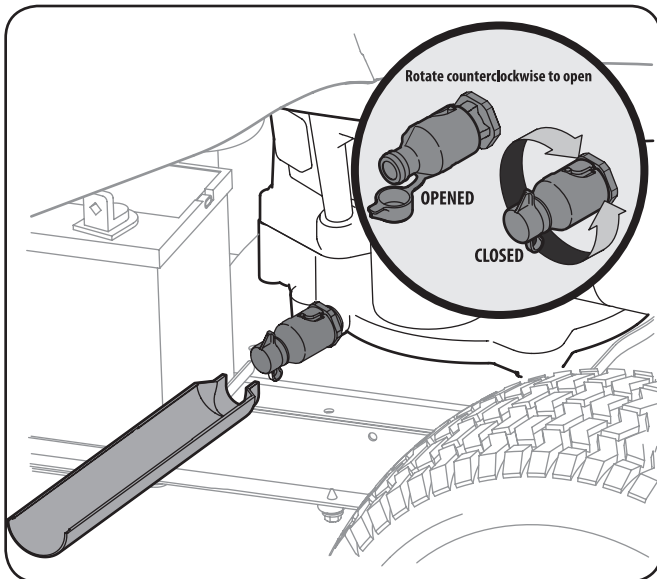

Figure 6-1
4. Snap the small end of oil drain sleeve onto the space provide around the oil drain valve. See Figure 6-1.
5. Open the cap on the oil drain valve as shown in Figure 6-1.